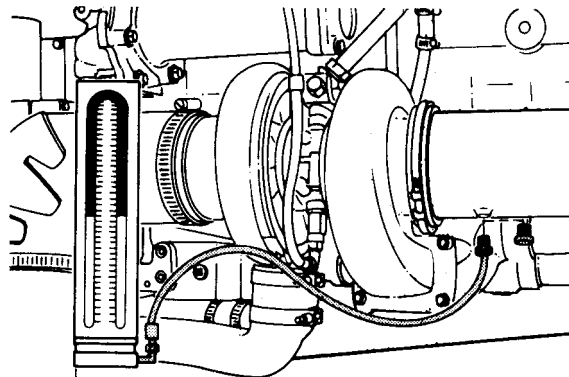

FIGURE 2-8. *Mercury Manometer Installation.*
- (1) Replace or clean the air filter element (para. 2-25).
- (2) Visually inspect the intake air piping for damage.
- a. Install a mercury manometer in the exhaust piping (FIGURE 2-8).